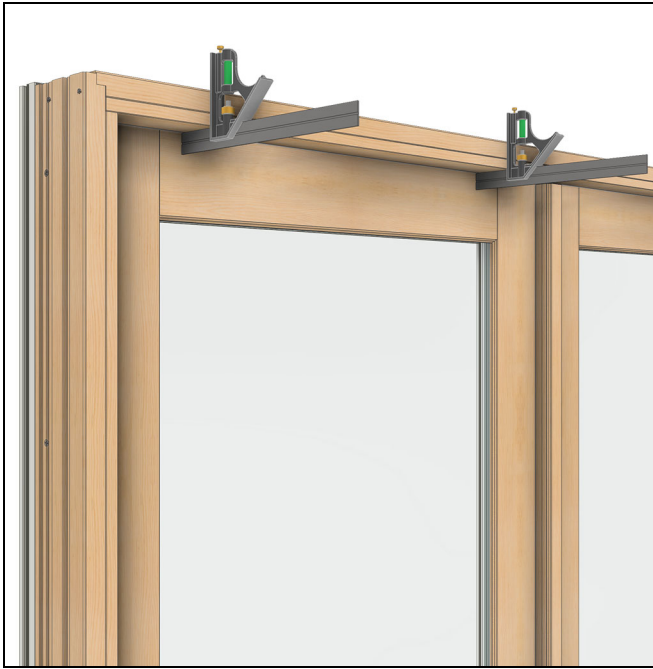

Figure 25
5. Use a speed square to set the top of the panel to the correct depth. See Figure 25.